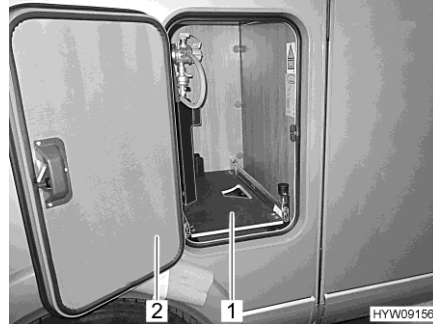

Fig. 129 Gas bottle compartment pull-out
- Open flap (Fig. 129,2) for the gas bottle compartment.
- Pull out the gas bottle compartment pull-out (Fig. 129,1) until the knob engages again. Now, the gas bottle compartment pull-out is locked in this position.